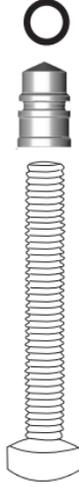

Fig 1
- Screw the aluminum battery end cap onto the nylon screw. (Fig 1)